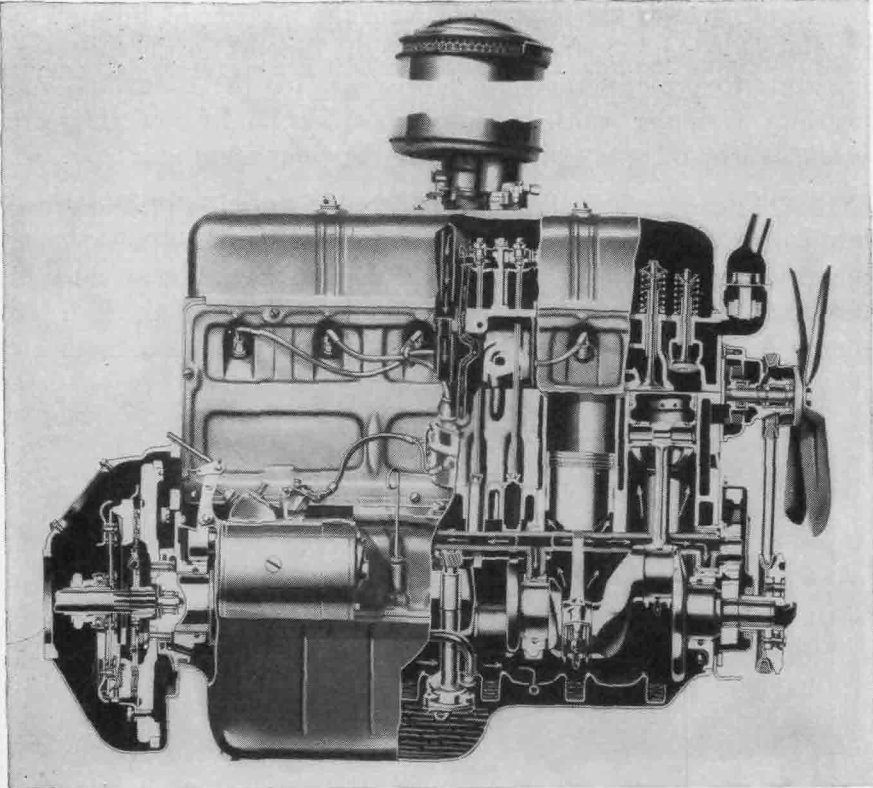

FIG. 11-15. Six-cylinder engine that uses combination splash and pressure-feed lubrication system. (Chevrolet Motor Division of General Motors Corporation)
3. *Combination splash and pressure-feed system.* The combination splash and pressure-feed lubricating system depends on oil splash to lubricate some engine parts and on pressure feed to lubricate other engine parts. An example of this type of system is shown in Fig. 11-15. In this engine the oil is supplied under pressure to the main bearings, the camshaft bearings, and the valve mechanisms. The connecting-rod bearings are lubricated by means of dippers on the rod bearing caps that dip into troughs in the oil pan. At high